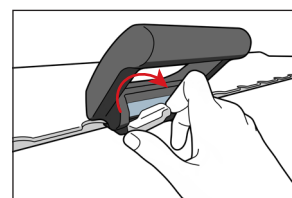

Fig. 9
4. Rotate the lever to the locked position (Fig. 9).